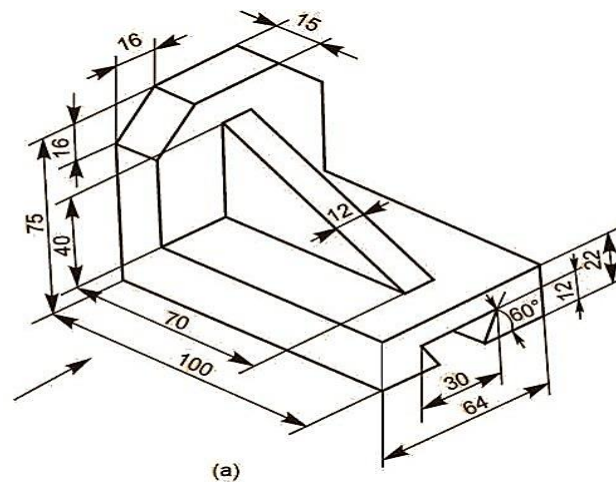

Fig. 10.1
1. Generate 2D drawings from 3D model shown in Fig 10.1